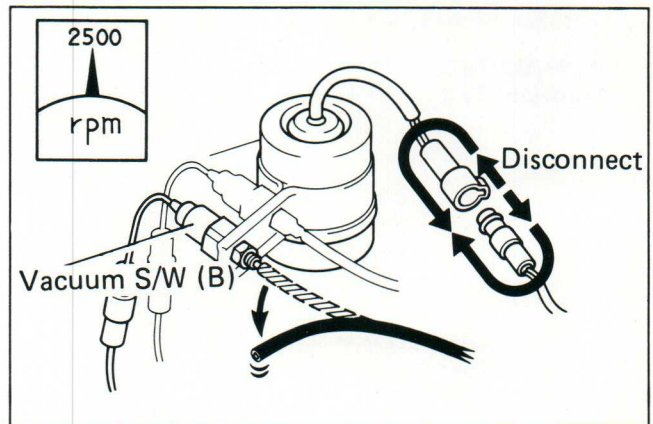

Figure 248-8
- h. Repeat steps b, c and d. Check that the engine revolution does *not* change (Figure 248-8).